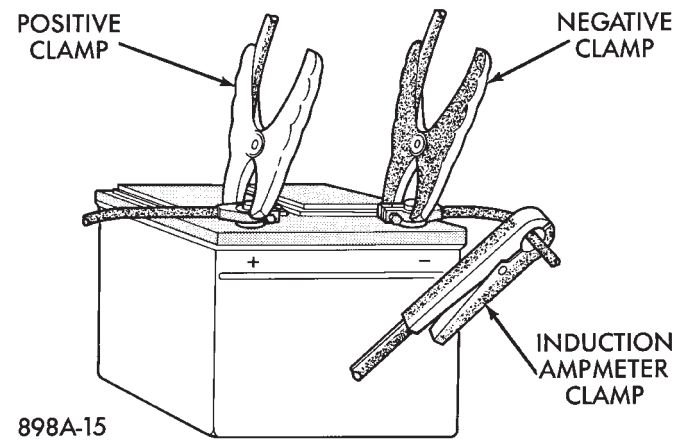

Fig. 3 Volt/Amp Tester Connections
(8) Connect an engine tachometer and connect battery negative cable.
(9) Connect a volt/amp tester equipped with a variable carbon pile rheostat between battery terminals (Fig. 3).